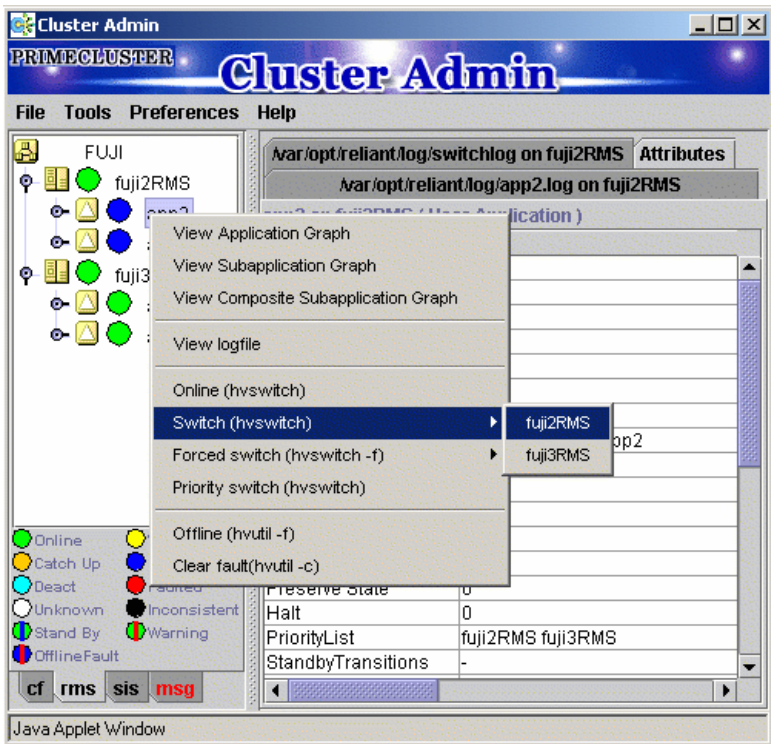

Figure 89: Switching an application
2. Select the target node from the pull-down menu to switch the application to that node (see Figure 89).